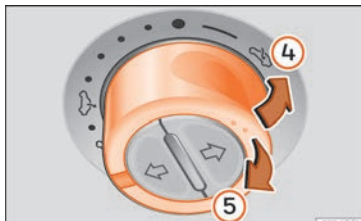

Fig. 16 On the internal cover of the roof: press the button and pull on it to raise and lower the sunroof.
- Lift: Push the switch to position » » Fig. 16 (4). For an intermediate position, hold down the switch until you reach the desired position.
- Lower: pull the switch to position » » Fig. 16 (5). For an intermediate position, hold down the switch until you reach the desired position.